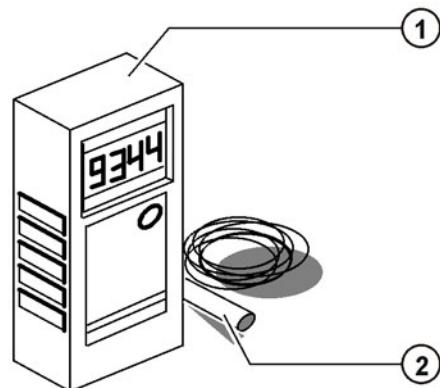

Fig. 10-3: Belt tension measuring device
5. Switch on the belt tension measuring device (**>>> Fig. 10-3**).